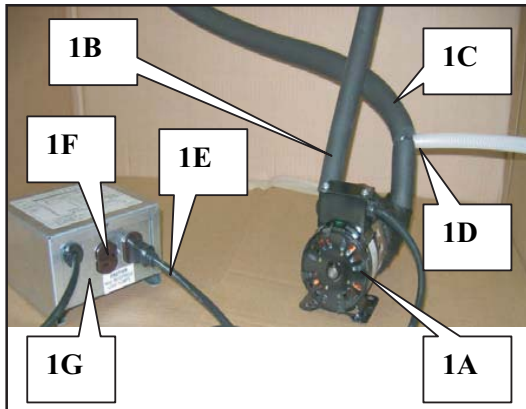
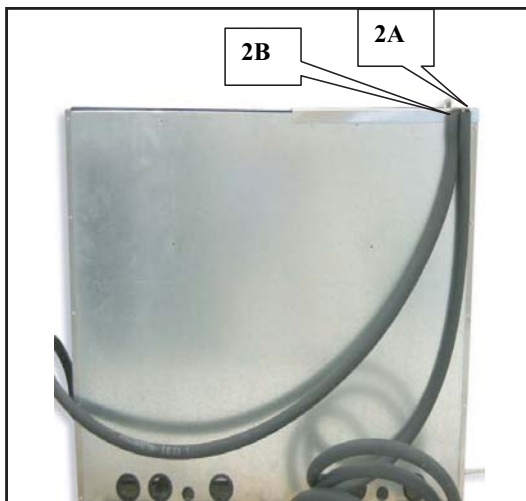
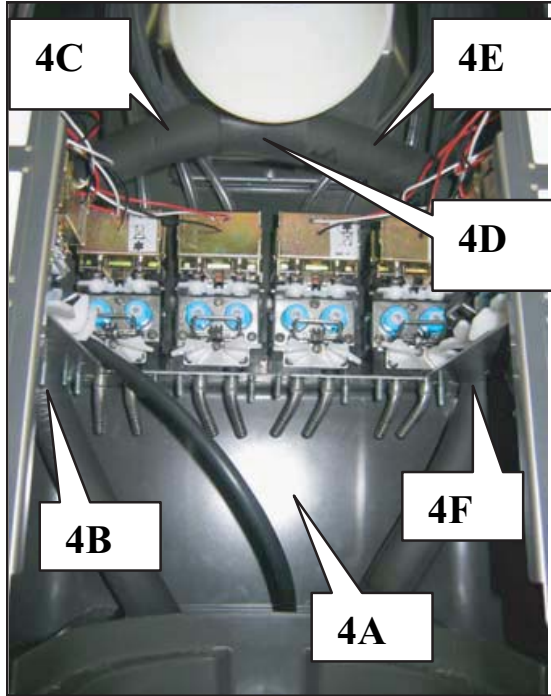

FIGURE 1
FIGURE 2
FIGURE 4
1. If required secure recirculation pump (1A) to counter or under counter that unit is installed on (See Figure 1). Run insulated beverage line (1B) from the barbed pump outlet fitting up to the right barbed cooling coil inlet (2A) on back of dispenser and secure both ends of line to the barbed fittings with otiker clamps (See Figures 1 and 2). Connect another insulated beverage line to left barbed cooling coil outlet (2B) on back of dispenser and secure line to barbed fitting with otiker clamp (See Figure 2).
3. Route insulated beverage line from the cooling coil outlet (2B) up through either the back or bottom of tower (4A) as shown (See Figures 2 and 4). Route insulated beverage line through left side hole in the valve mount plate (4B) as shown (See Figure 4). Connect insulated beverage line to left side of barb fitting (4C) and secure line to barbed fitting with otiker clamp (See Figure 4). Connect the last insulated beverage line to right side of barbed fitting (4E) and secure line to barbed fitting with otiker clamp (See Figure 4). Wrap fitting and insulated beverage lines (4D) with cork tape insulation (See Figure 4). **Installation of cork tape must be done properly to prevent condensation and temperature gain of circulating water.**
5. **Chiller Installations:** Attach insulated beverage line (1B) to the pump outlet fitting and secure with otiker clamp. Then run insulated line (1B) to the plain water coil inlet (5B) of the chiller (5A). Secure line to the coil inlet (5B) of the chiller (5A) mechanically. If applicable us an otiker clamp (See Figures 1 and 5).
- Chiller Installations:** Route insulated beverage line from the coil outlet (5C) up through either the back or bottom of tower (4A) as shown (See Figures 4 and 5). Route insulated beverage line through left side hole in the valve mount plate (4B) as shown (See Figure 4). Connect insulated beverage line to left side of barb fitting (4C) and secure line to barbed fitting with otiker clamp (See Figure 4). Connect the last insulated beverage line to right side of barbed fitting (4E) and secure line to barbed fitting with otiker clamp (See Figure 4). Wrap fitting and insulated beverage lines (4D) with cork tape insulation (See Figure 4). *Installation of cork tape must be done properly to prevent condensation and temperature gain of circulating water.*
- Route insulated beverage line through right side hole in the valve mount plate (4F) as shown (See Figure 4). Route insulated beverage line either through back or bottom of tower (See Figure 4).
- Connect insulated beverage line from right side of tower to pump inlet barbed fitting (1C) and secure with otiker clamp (See Figure 1). Connect potable water supply line (3/8 ID line size) to barbed pump connection (1D) and secure line with otiker clamp (See Figure 1). After all line connections have been made ensure potable water supply is flowing or turned on and check for leaks. If no leaks are present dispense water through the tower to purge any trapped air from the recirculation loop and pump. Connect power supply cord (1E) from recirculation pump (1A) to receptacle (1F) on the power supply (1G) or to a separate power outlet or receptacle (See Figure 1).